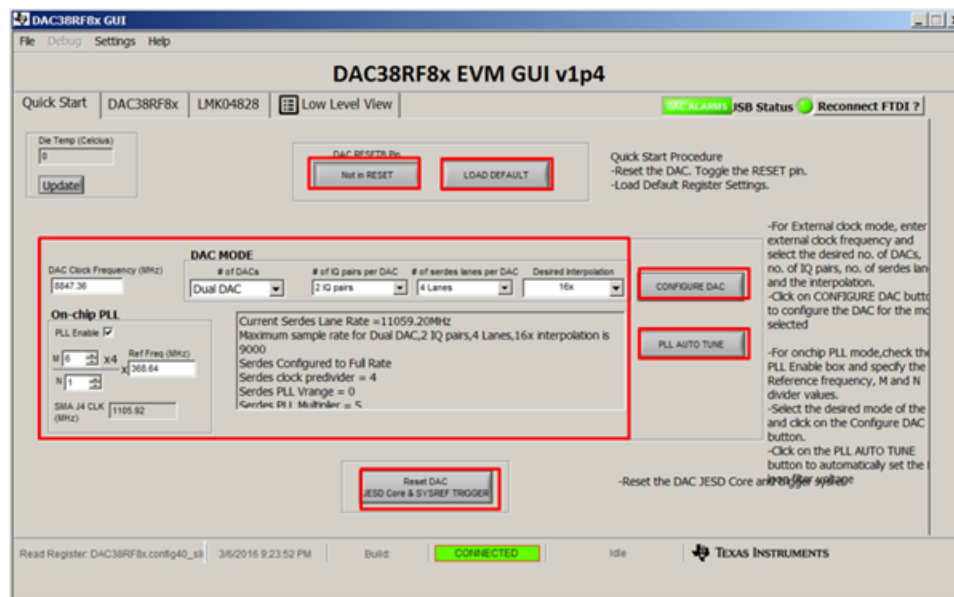

Figure 11. Quick Start Page of GUI
8. Set the value as in Figure 11, then click on the CONFIGURE DAC button to configure the DAC38RF83 according to the setting created.